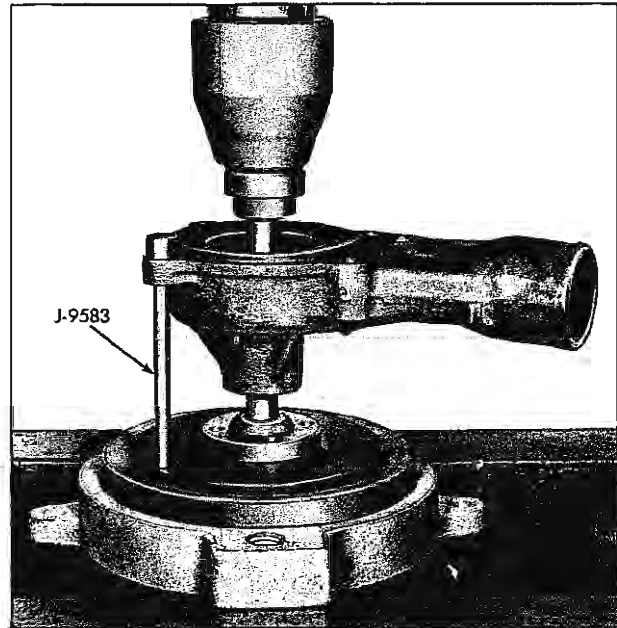

Fig. 6A-25 Installing Fan Hub Using Locating Tool J-9583
4. Support pump on front or hub end of shaft and press on impeller. Press to obtain .010" to .035" clearance between impeller vanes and pump body (Fig. 6A-26).